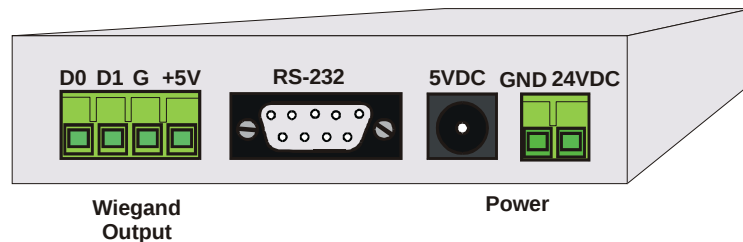

Figure 17 Back of the Receiver
- Step 2:** Plug the AC adapter into the jack labeled **5VDC** on the **back** of the Receiver (Figure 17).